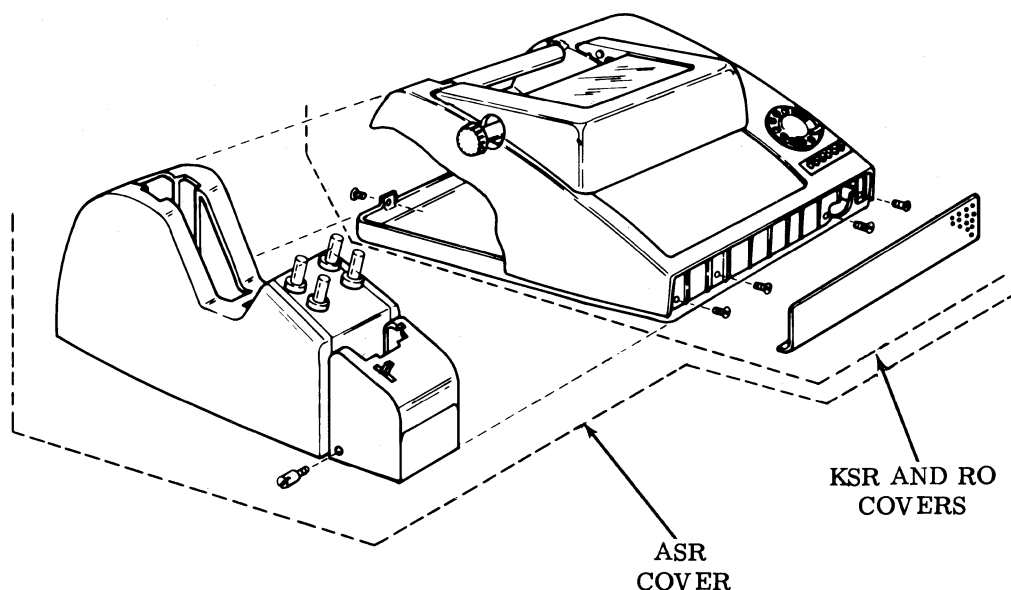

Figure 1 - Set Covers
2.01 To remove the set cover (Figure 1), proceed as follows.